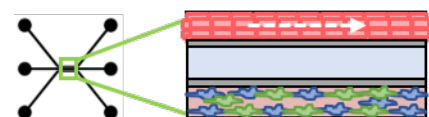

Figure 2. BBB co-culture of endothelial cells (red), astrocytes (green), and pericytes (blue) in a chip of an OrganoPlate® 3-lane.
- OrganoPlate® 3-lane with BBB co-cultures (see figure 2)